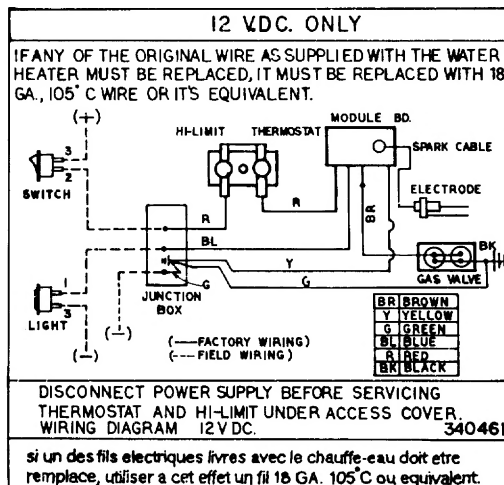

Figure 8
E. Make the 12 Volt D.C. electrical connections following the wiring diagram illustrated in Figure 8.